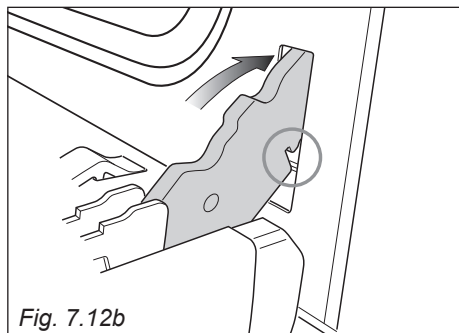

Fig. 7.12b
2. Insert the hinge tongues into the slots, making sure that the groove drops into place as shown in the figure 7.12b.